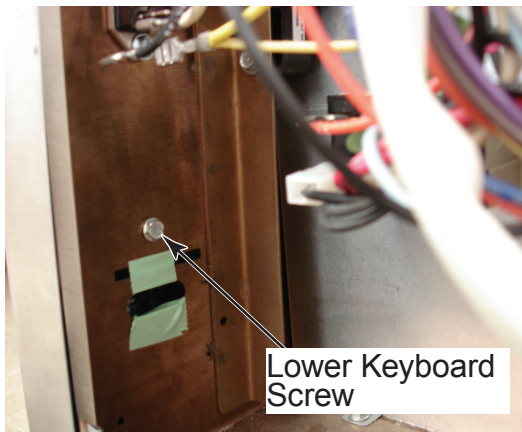

Figure 1
3. Remove lower vertical keyboard screw (Figure 1).